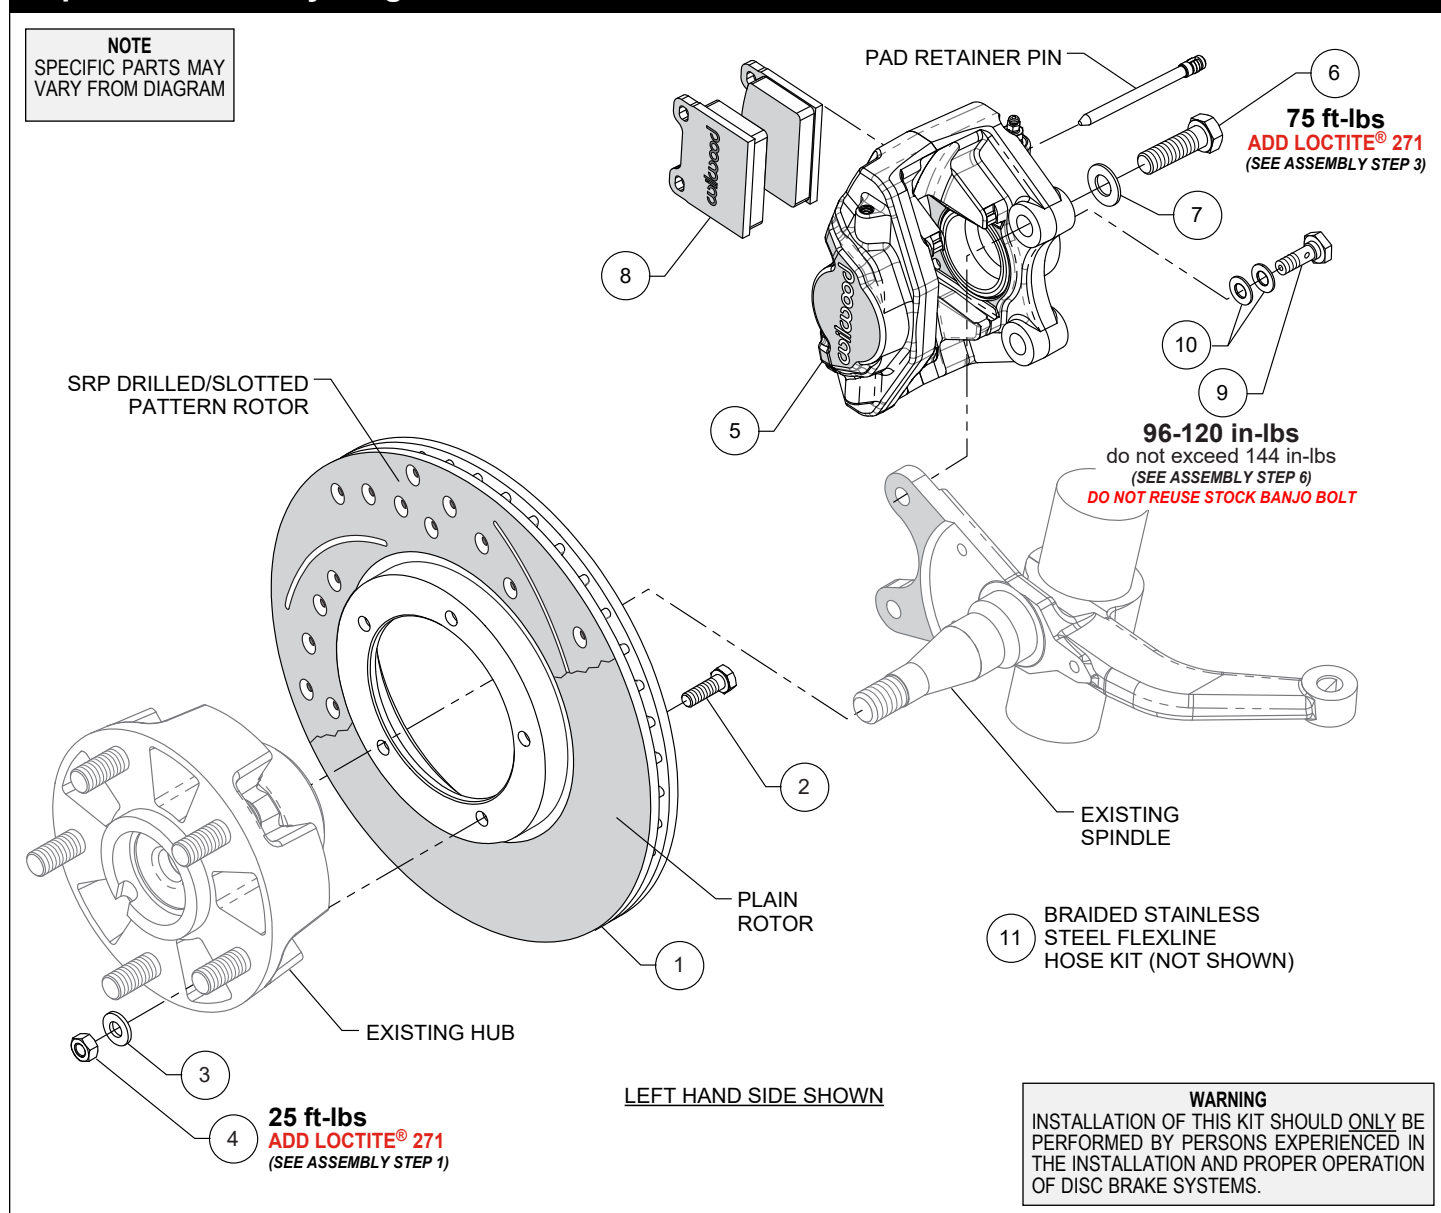

Figure 1. Typical Installation Configuration
NOTE: Numbers in parenthesis refer to the parts list and Figure 1 on the preceding pages.
STEP 1 Orient the Wilwood rotor (1) and the existing OEM hub as shown in Figure 1 and Photo 1. Attach rotor to hub assembly using bolts (2), washers (3), and nuts (4). Apply red *Loctite*® 271 to the bolt threads, and torque nuts to value shown in Figure 1 using a criss-cross pattern.
STEP 3 Mount the caliper (5) onto the OEM caliper mounting bosses of upright using bolts (6) and washers (7), as shown in
Figure 1 and Photo 2. Apply red *Loctite*® 271 to bolt threads, and torque to value shown in Figure 1.
using new chassis adapter fitting and retainer clip, Photo 6. Connect to caliper using banjo bolt (9) and crush washers (10), as shown in Figure 1 and Photo 7. Do not use thread sealant on banjo bolt. Torque to minimum value shown in Figure 1. Check for leakage, increasing torque only to stop leakage without exceeding maximum specification. Replace crush washers and banjo bolt whenever reassembly is required. **Ensure hoses are routed to prevent contact with moving suspension, brake or wheel components.**